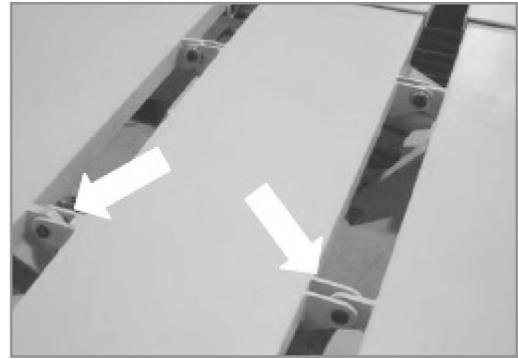

Figure 22
1. Keep pins and bolts oiled (sample indicated by arrows in Figure 22).